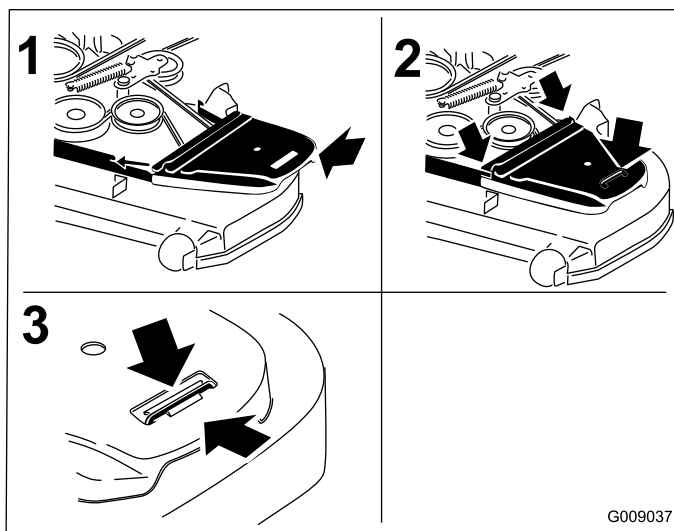

Figure 79
12. Install the belt covers (Figure 79).